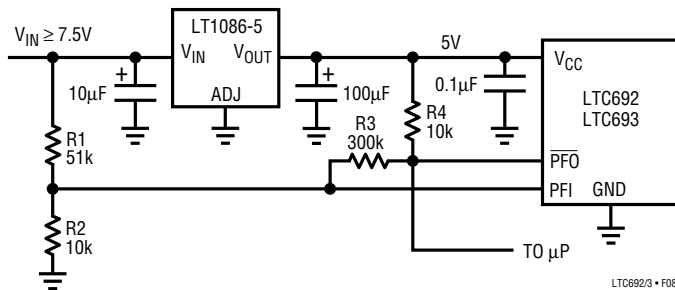

Figure 8. Monitoring Unregulated DC Supply with the LTC692/LTC693 Power Fail Comparator
The LTC692/LTC693 generate a Power Failure Output (PFO) for early warning of failure in the microprocessor's power supply. This is accomplished by comparing the Power Failure Input (PFI) with an internal 1.3V reference. PFO goes low when the voltage at the PFI pin is less than 1.3V. Typically PFI is driven by an external voltage divider (R1 and R2 in Figures 8 and 9) which senses either an unregulated DC input or a regulated 5V output. The voltage divider ratio can be chosen such that the voltage at the PFI pin falls below 1.3V, several milliseconds before the 5V supply falls below the maximum reset voltage threshold of 4.50V. PFO is normally used to interrupt the microprocessor to execute shutdown procedure between PFO and RESET or RESET.
The power fail comparator, C3, does not have hysteresis. Hysteresis can be added however, by connecting a resistor between the PFO output and the noninverting PFI input pin as shown in Figures 8 and 9. The upper and lower trip points in the comparator are established as follows:
**Example 1:** The circuit in Figure 8 demonstrates the use of the power fail comparator to monitor the unregulated power supply input. Assuming the rate of decay of the supply input  $V_{IN}$  is 100mV/ms and the total time to execute a shutdown procedure is 8ms. Also, the noise of  $V_{IN}$  is 200mV. With these assumptions in mind, we can reasonably set  $V_L = 7.25V$  which is 1.25V greater than the sum of maximum reset voltage threshold and the dropout voltage of LT1086-5 (4.5V + 1.5V) and  $V_{\text{HYSTERESIS}} = 850mV$ .